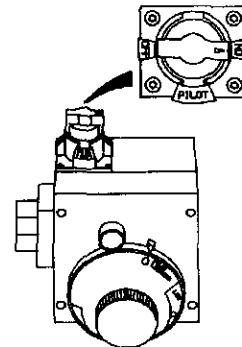

Figure 8
11. At arms length away, turn gas control knob counter-clockwise (↺) to the full "ON" position. **Warning do not use gas control knob to regulate gas flow.** (Figure 8, page 22)